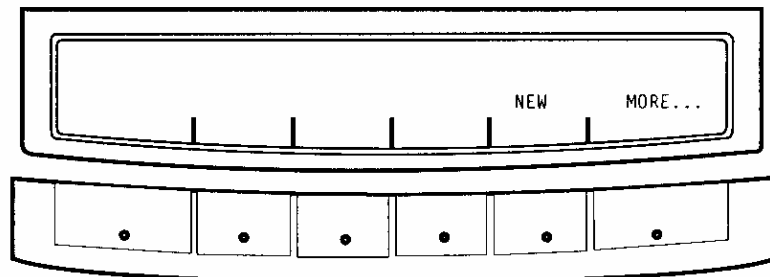

Figure 11
5. Press the **DBASE** key. . . **When the database is empty you will see the display in Figure 11.**